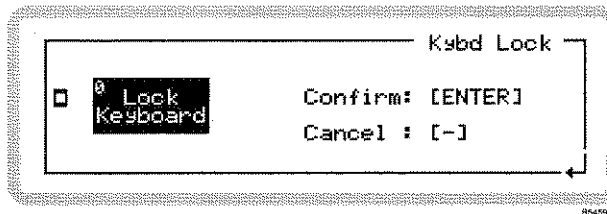

Fig. 3-126 Confirming keyboard locking
Touch the Lock Keyboard soft box or key 0 to lock the keyboard (Fig. 3-126).